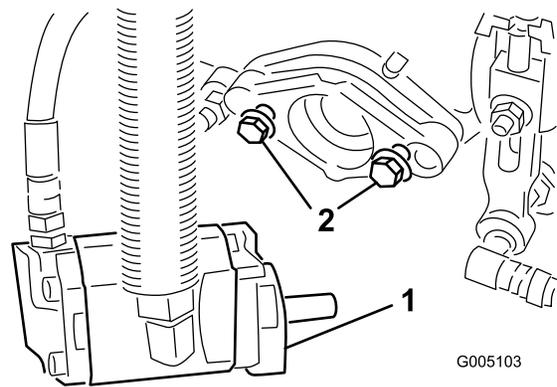

Figure 10
6. Ensure that there is approximately 13 mm (1/2 inch) of threads exposed on each reel drive motor mounting bolt (Figure 10).
8. Tighten the mounting bolts (Figure 10).